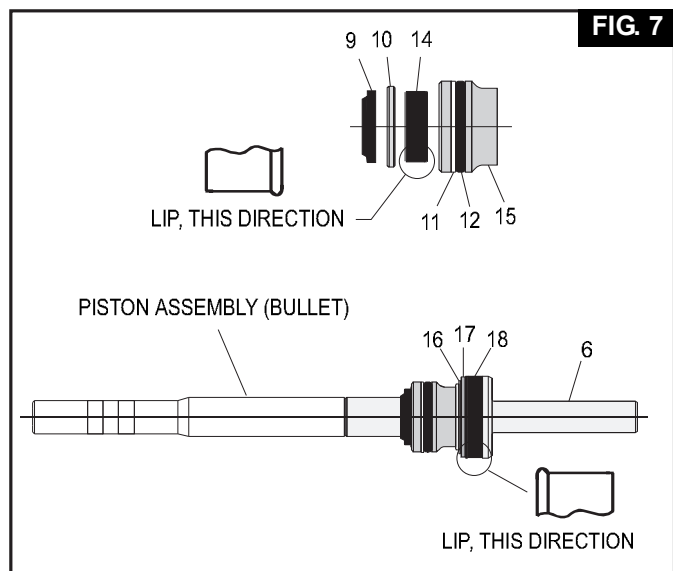

FIG. 7
4. Assemble piston (6), Polyseal (18), Washer (17) and retaining ring (16) (Fig 7). Note Polyseal orientation.
5. Assemble front gland (15), O-ring (12), Back-up ring (11), Polyseal (14) and Gland Cap (10). Note Polyseal orientation. (Fig 7)
6. Thread Piston Assembly Tool (123111-11 for ERT9 & ERT9V, 123111-2 for 2022, 2022A or 123111-4 for 2022L & 2022LV) onto Piston (6). (**Note: Adapter (66) must be removed on ERT9 models to use Assembly tool 123111-11**) Slide complete Gland Assembly and Wiper Seal (9) onto Piston (6). (Fig.7)